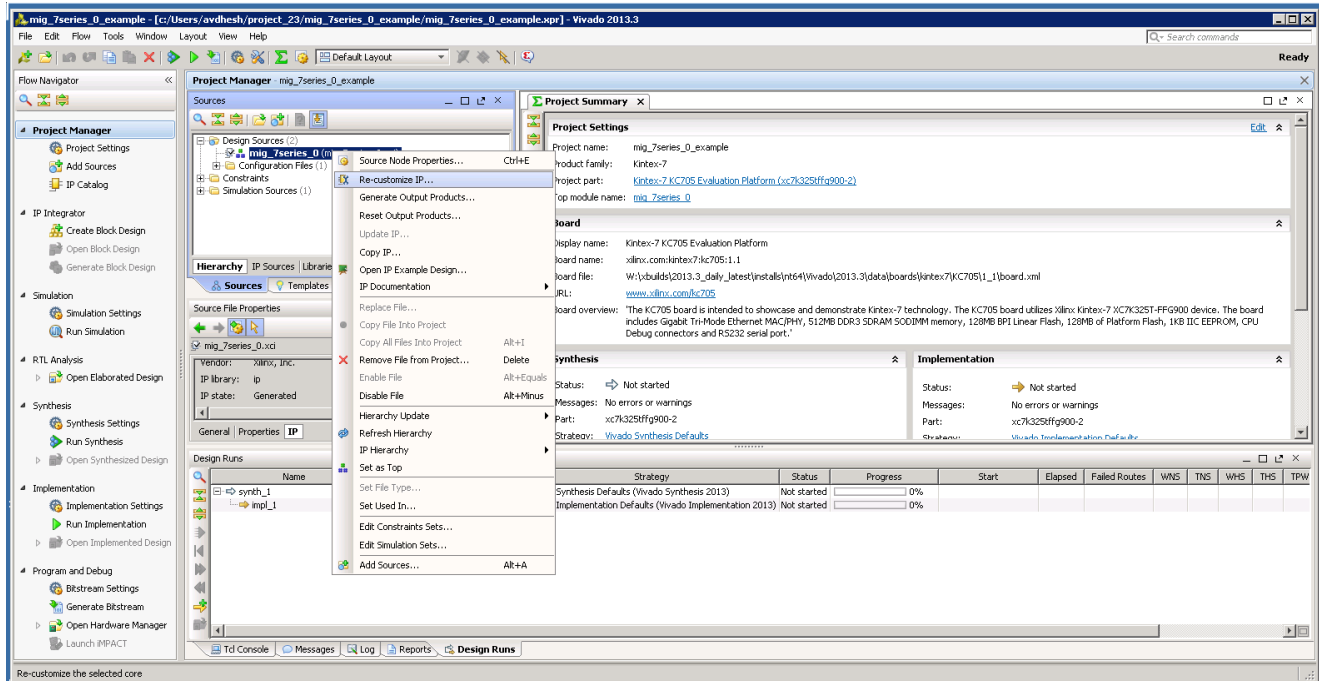

Figure 3-34: Recustomize IP
12. Recustomization of the MIG IP can be done by using the **Recustomize IP** option. It is not recommended to recustomize the IP in the `example_design` project. The correct solution is to close the `example_design` project, go back to original project and customize there. Right-click the XCI file and click **Recustomize IP** (Figure 3-34) to open the MIG GUI and regenerate the design with the preferred options.